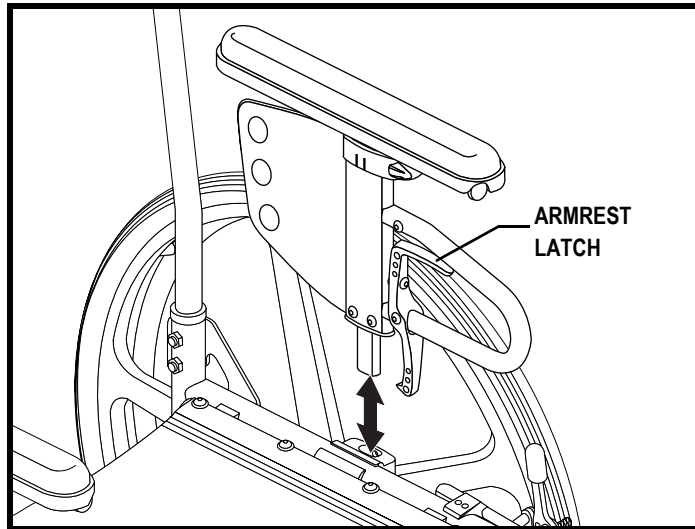

Figure 32. Drop-in Armrest Removal
1. Squeeze the armrest latch. See figure 32.